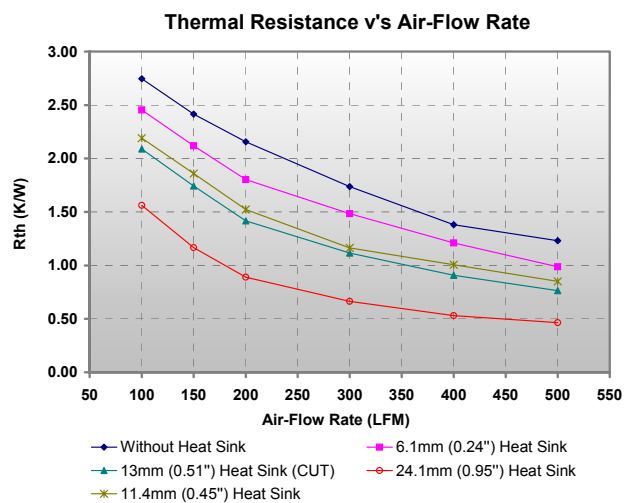

Figure 53: Thermal resistances at laminar airflow
- The value of $R_{th_{BP-A}}$ allows to determine the required airflow or heat sink using Figure 53.
- 1 The thermal resistance for a given airflow and heat sink can be found in figure 53